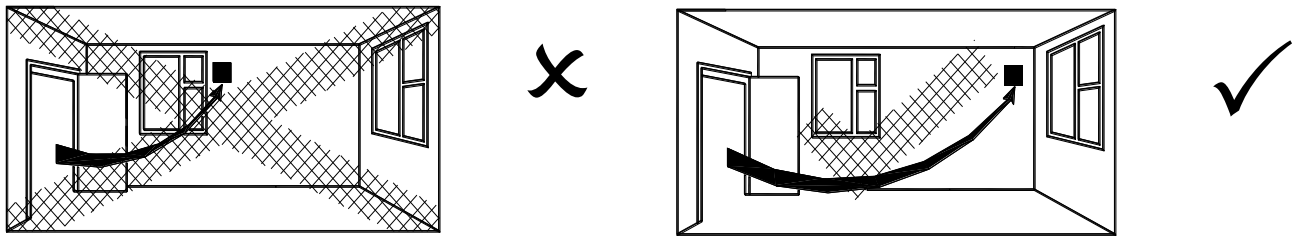

Fig 9. Wiring diagram without LS connection.
1. Select and follow the appropriate wiring diagram (*fig. 9 or 10*).